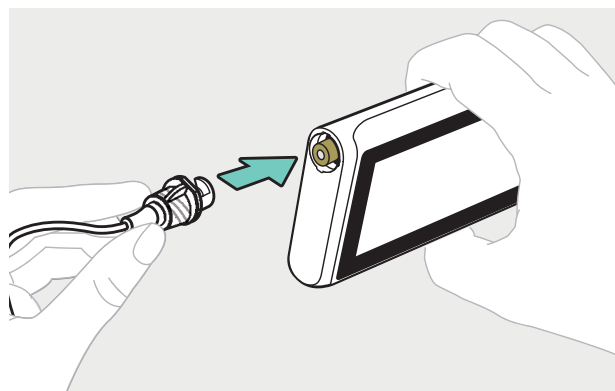

Figure 62
- b. After the cartridge has been inserted, insert the iLet Connect into the iLet device's insulin chamber (see Figure 62).